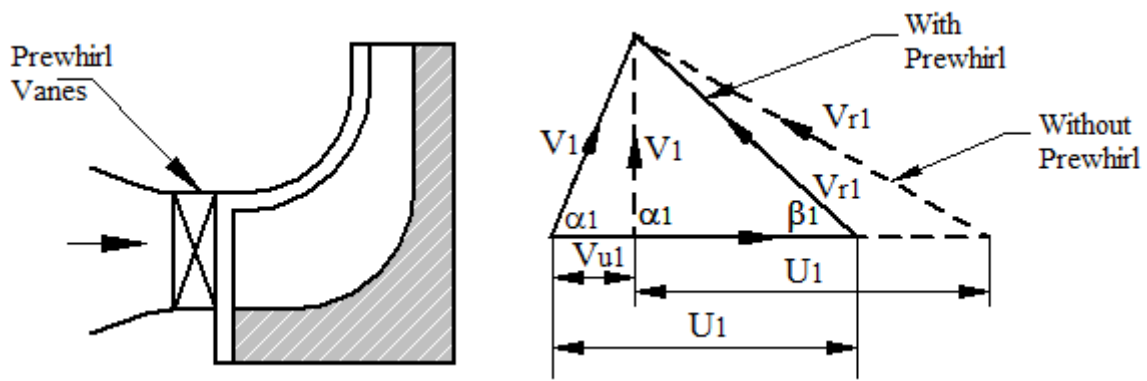

Fig. 5.6 Prewirl at impeller eye
**Answer:** When the relative velocity is too high for efficient operation of a compressor and if flow rate and speed cannot be altered, still the relative velocity can be reduced by giving the fluid some initial positive pre-rotation. This is known as *Prewirl*. This is usually done by providing inlet guide vanes installed directly in front of the eye as shown in figure 5.6. Sufficient prewhirl at the eye tip can avoid reaching the condition of critical Mach number leading to a prewhirl component. Positive prewhirl is disadvantageous because a positive inlet whirl velocity reduces energy transfer by an amount equal to  $U_1 V_{u1}$ .